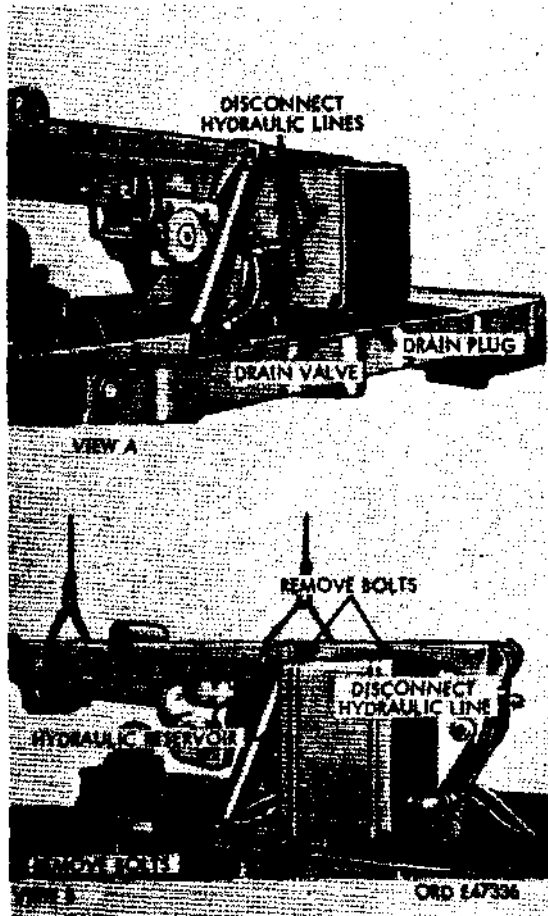

Figure 547. Hydraulic oil reservoir tank - removal and installation
(3) Remove bolts from tank straps (fig. 547, view B) and remove tank.
- (1) Connect hose to drain valve (fig. 547, view A) and drain hydraulic oil from